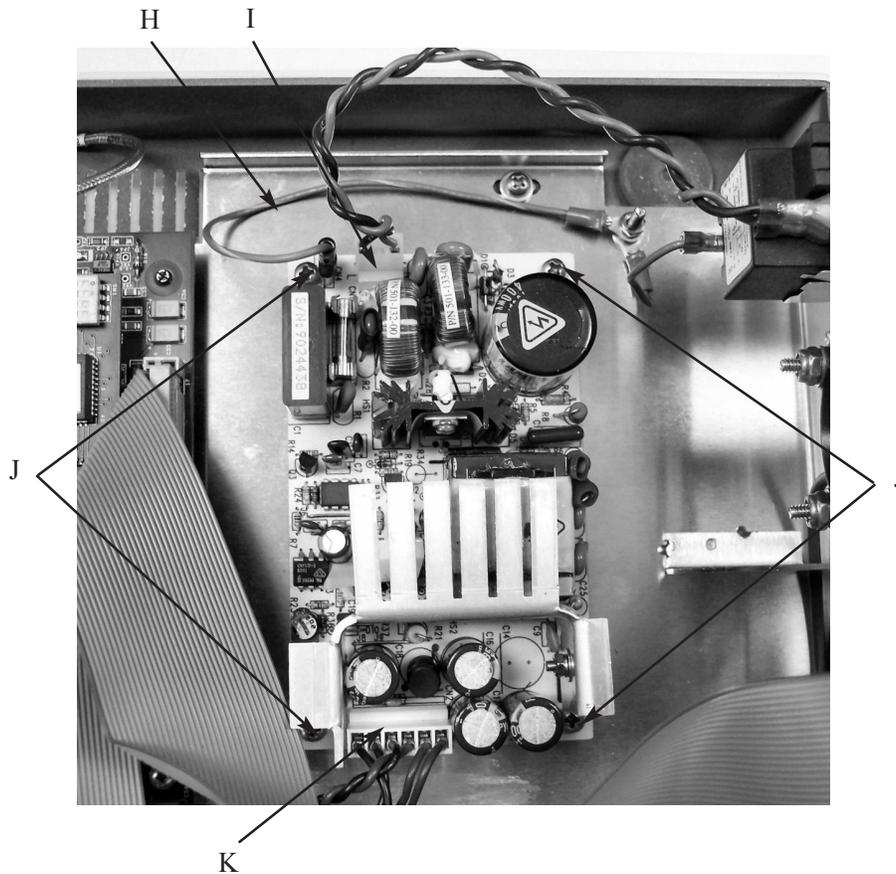
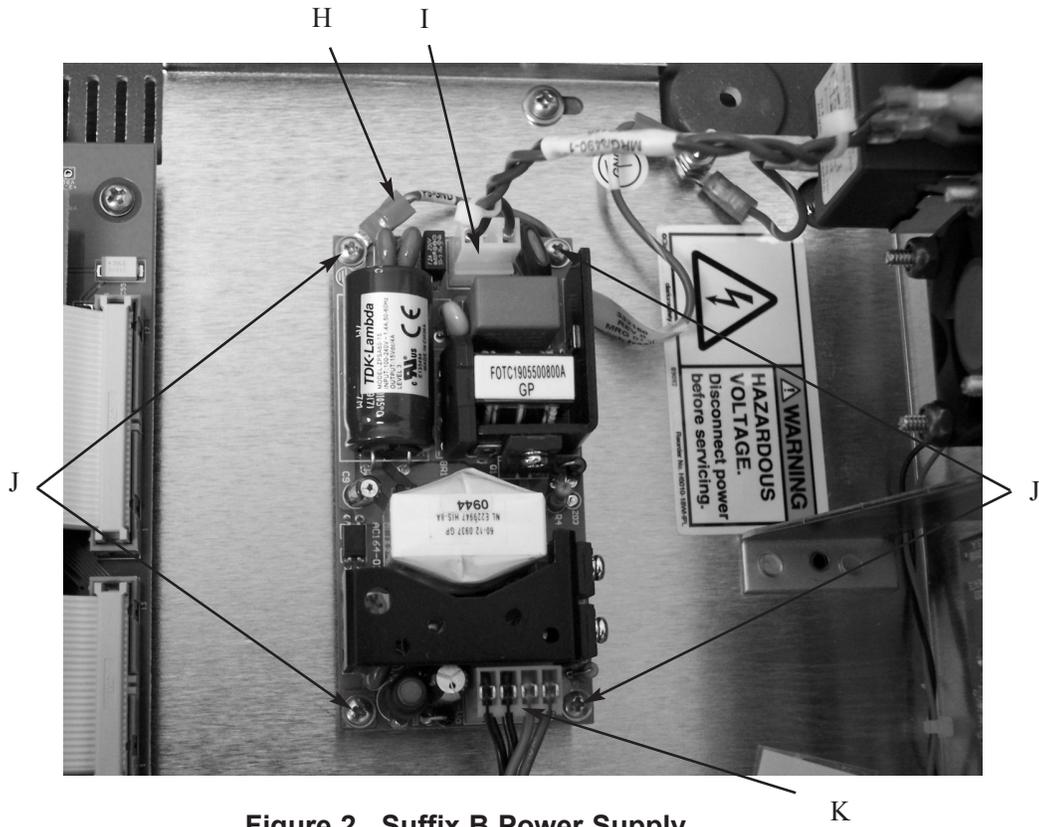
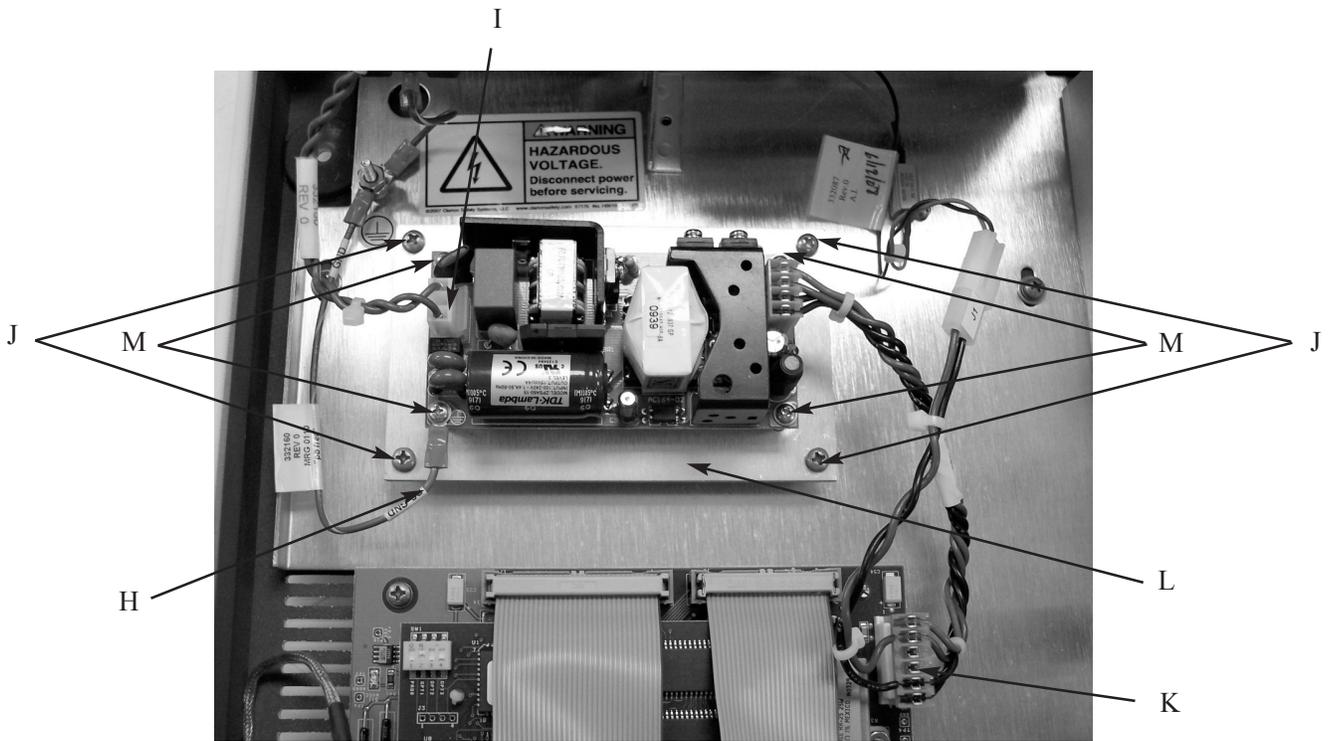

Figure 1. Suffix A Power Supply
Figure 2. Suffix B Power Supply
Figure 3. Suffix A Instrument, Upgraded to Suffix B Power Supply
5. Return the instrument to its upright position and carefully rotate the rear of the cover up and away from the bottom cover while keeping the front portion close to the bottom cover (D).
6. Unplug the keypad cable (E) and the display cable (F) from the connectors on the circuit board assembly, and remove the instrument cover.
7. Disconnect the two ribbon cables (G) from the connectors on the rear panel circuit board.
8. Using the photos in Figures 1, 2, and 3 and your instrument serial number, determine if you have a suffix A (Figure 1) or suffix B (Figure 2) power supply. You may also have a suffix A power supply that has been previously upgraded to the suffix B version (Figure 3).
If you have the suffix A power supply (Figure 1) and have ordered kit 332950R:
9. Remove your old power supply input cable (I).
10. Remove and discard the ground wire (H) and DC output cable (K), but keep any mounting hardware. (Cable replacements are included in the 332950R kit.)
11. Remove the four mounting screws (J).
12. Locate the new ground wire (H) and install it on the chassis stud using the original hardware.
13. As shown in Figure 3, install the mounting plate (L) using the original power supply mounting screws (J).
14. Install the new power supply on the mounting plate using included hardware (M). Note the installation of the replacement ground wire under one of these mounting screws (see Figure 3).
15. Locate the new DC output harness (K). Install it on the output connector and then install the remaining connections to the Application PCB and the rear panel cooling fan (Figure 3).
17. Remove and replace the power supply only by removing input (I) and output (K) wiring connectors.
18. Remove the four mounting screws (M) and the ground wire (H).
19. Replace the power supply using the same hardware and ground wire (H).
20. Reconnect the input (I) and output (K) connections.
If you have the suffix B power supply (Figure 2), or a suffix A instrument that was previously upgraded to suffix B power supply (Figure 3): You should have received parts kit 332951R. Continue steps 17 - 21: